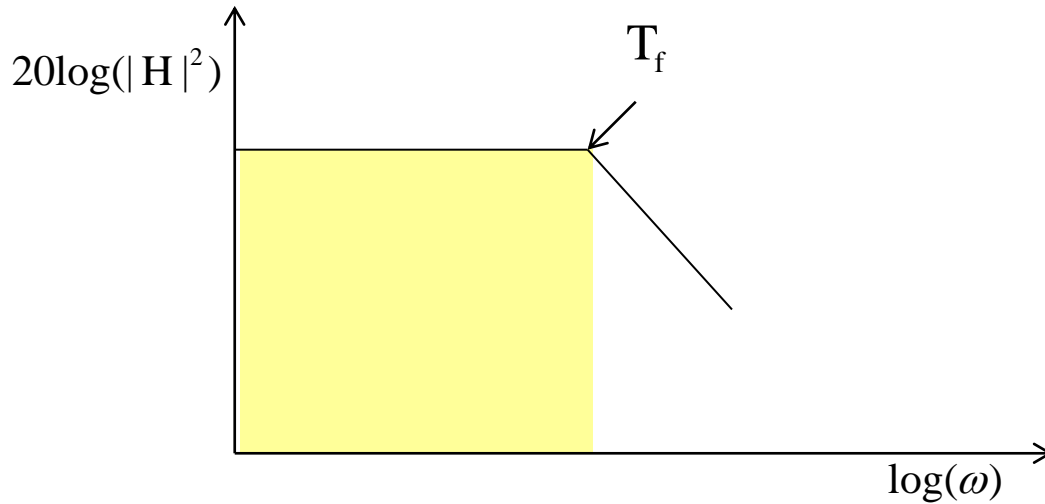

Figure 9: Bode plot of the H_{IR} transfer function
Figure 9 shows the Bode diagram of the transfer function $|H|^2$. The yellow area contributes significantly to the integral in (28).